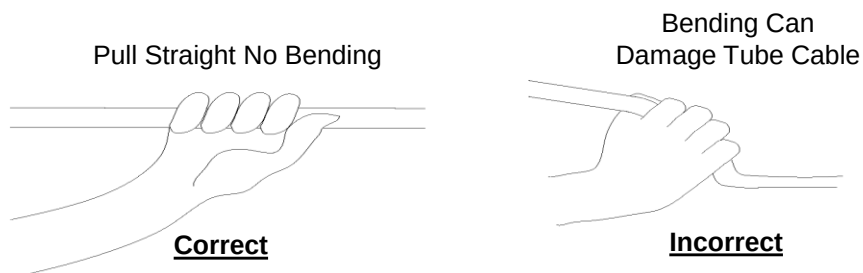

Figure 22
17.1.5 Always pull tube cable in a straight direction without bending. If needed, special gripping gloves are available to facilitate pulling lubricated tube cables. **See Fig. 22.**